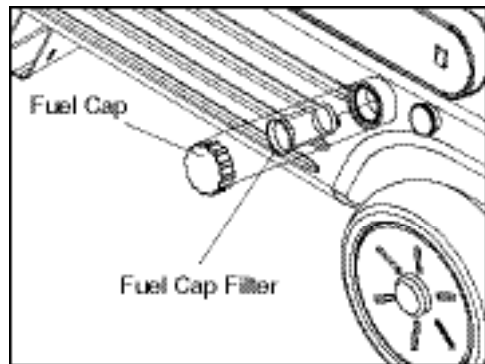

Figure 10. Remove Fuel Cap and Filter
1. Remove Fuel Cap and Cap Fuel Filter(See Figure 10).